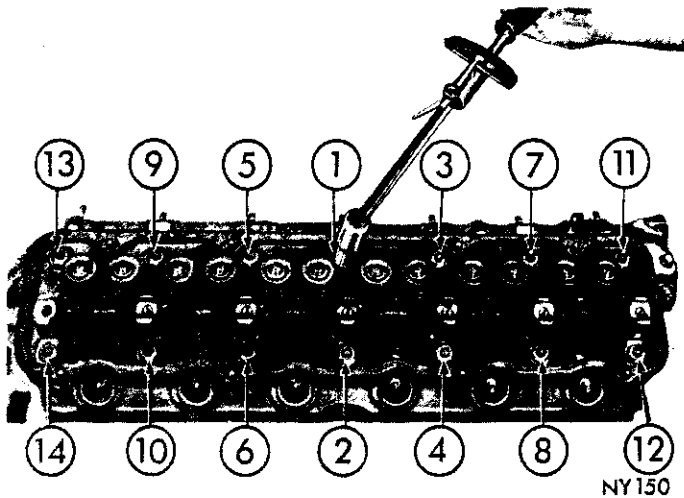

Fig. 10—Cylinder Head Tightening Sequence
(3) Coat new gasket lightly with Chrysler Sealer, Part Number 1057794 or equivalent. Install gasket and cylinder head.
(4) Install cylinder head bolts. Starting at top center, tighten all cylinder head bolts to 50 foot-pounds in sequence (Fig. 10). Repeat the procedure, retightening all cylinder head bolts to 65 foot-pounds.